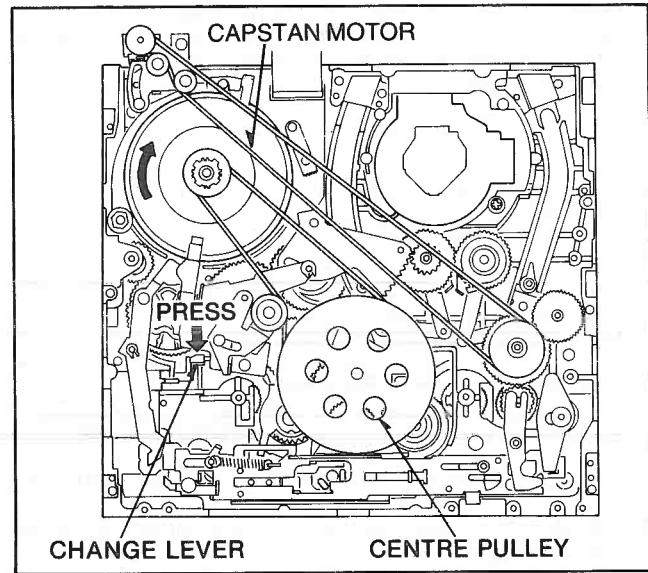

Figure M33
3. Turn the Capstan Motor to the clockwise while the change lever is being pushed until the loading is completed as shown in Figure M33.